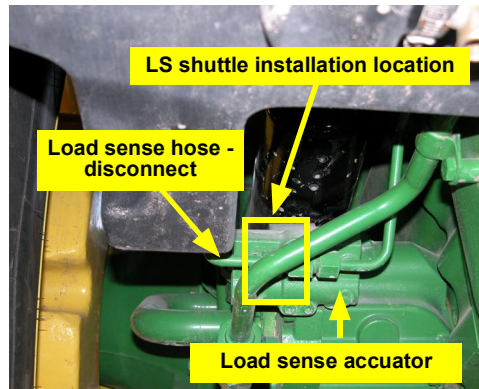

Figure 6b: Load sense shuttle location - high flow pump shown
- b. Locate the load sense actuator on the hydraulic pump under the tractor cab on the right side. Disconnect the load sense hose from the load sense actuator (Figure 6b).
**NOTE:** *Figure 6b shows a high flow pump. Install the load sense shuttle with adapter **HP**. You will connect the load sense hose from the hydraulic steering block to **HP**.*